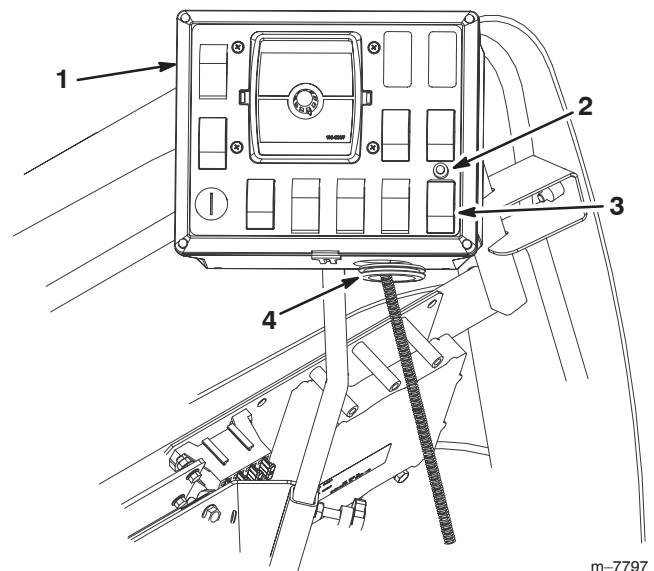

Figure 16
3. Install the indicator light through the back of the hole. Secure it to the front panel with the fasteners included (Fig. 16).
2. Split the new grommet included in the kit and wrap the around the wiring harness at the base of the control panel. Install the grommets to the base of control panel in place of the grommet removed previously (Fig. 16).
8. Install the front control panel cover to the control box using the fasteners removed previously (Fig. 16).